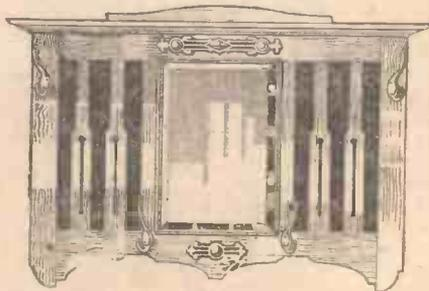

Fig. 7.—Slinging a barrel on its side.
which it is used. This knot can also be used for fastening a spar across a rope, provided that there is always a certain amount of strain on both ends of the rope. A slight modification of it, Fig. 6 (1) is used for slinging barrels, etc., in an upright position. You will see that the knot is formed simply from the lever hitch by taking an extra turn at x in Fig. 5 (3). In Fig. 6 (2), you will see the knot in use. Fig. 7 is also another form of lever hitch.